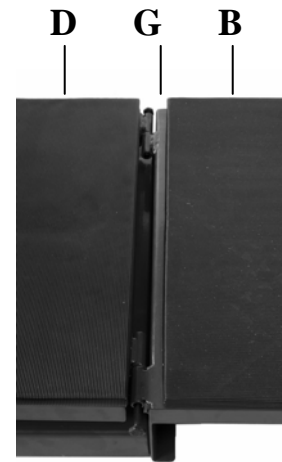

Fig. 3
3. Secure the foot platforms to Part (B) using 1 Bolt (G) per hole and secure with nut. (Fig. 3)